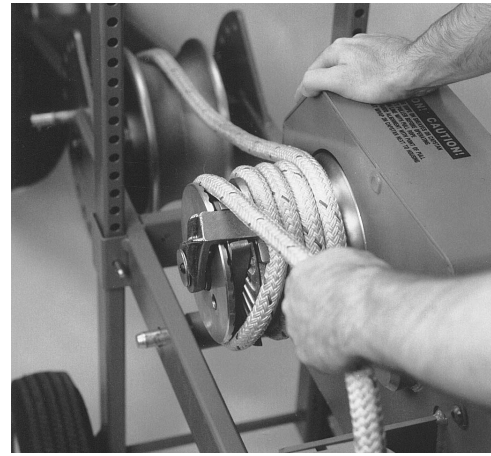

Figure 5
5. Manually tension the pull line and wrap it clockwise around the capstan. Each wrap will yield approximately 20% more pulling power. If on the Standard or Plus models the rope size permits, wrap the pull line around the self-tailing portion of the capstan. (See Figure 5) If you wish to use the self-tailing capstan function, you must use pulling rope with a diameter from $\frac{5}{8}$ " to $\frac{7}{8}$ " (16 to 22 mm). However, the puller will work without the self-tailing mechanism with a variety of other rope sizes.
!CAUTION: The self-tailing capstan's bronze components are not meant to rotate. Never overwrap rope on them. Damage to the puller will result. Do not run the rope directly from the sheave to the self-tailer. Damage to the self-tailer will result. (See Figure 5)